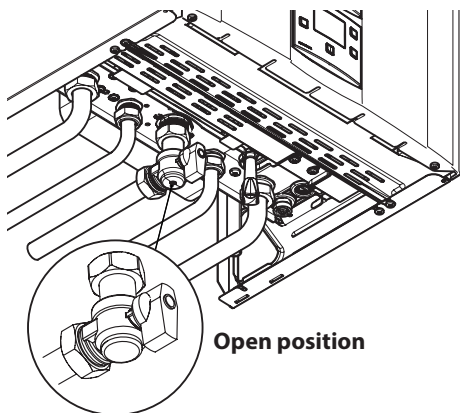

Figure 2.1
- The boiler cocks and those provided during installation must be open (Figure 2.1).